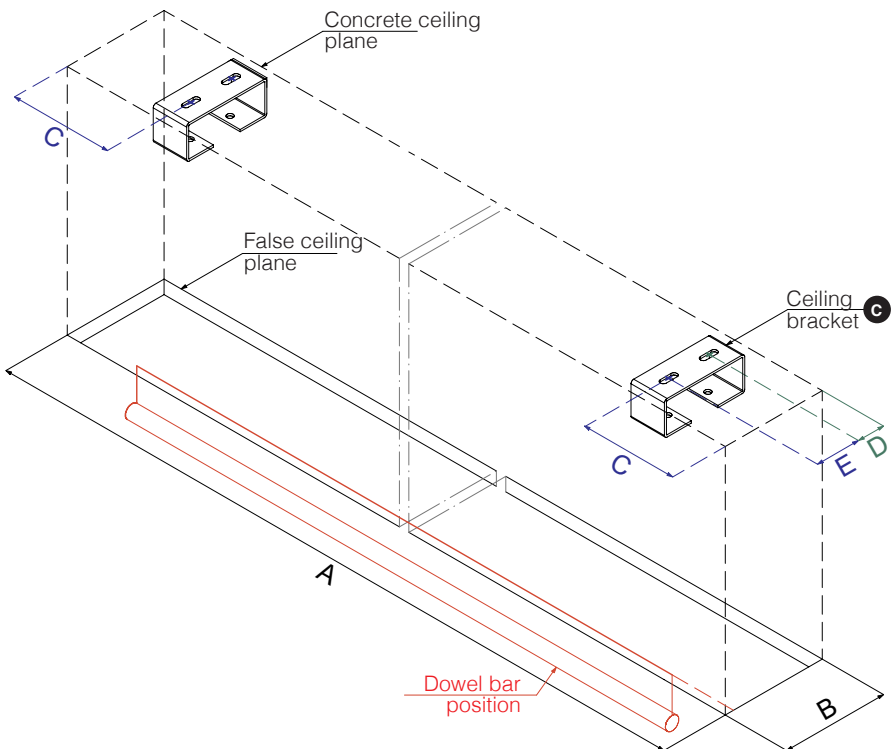

Fig.1
STEP 1 – False Ceiling Hole – Fig. 1